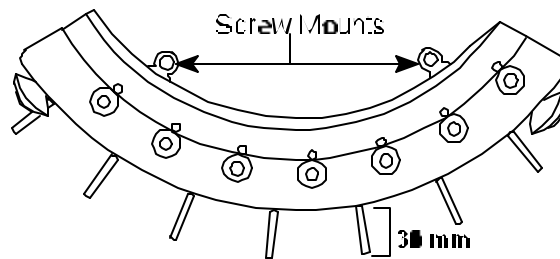

Figure 4
- Using a Flathead Screwdriver, **loosen** and **remove** two set screws that secures the Thread Apron to Turret Plate. See Figure 4.